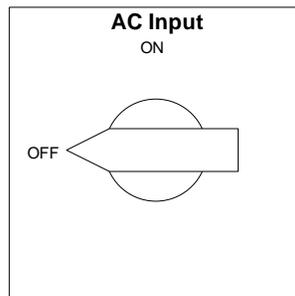

Fig. 4-32
Step 4: Open the **AC Input** breaker (Fig. 4-32). The UPS is now available for service or troubleshooting by an authorized service technician without affecting the applied critical load.